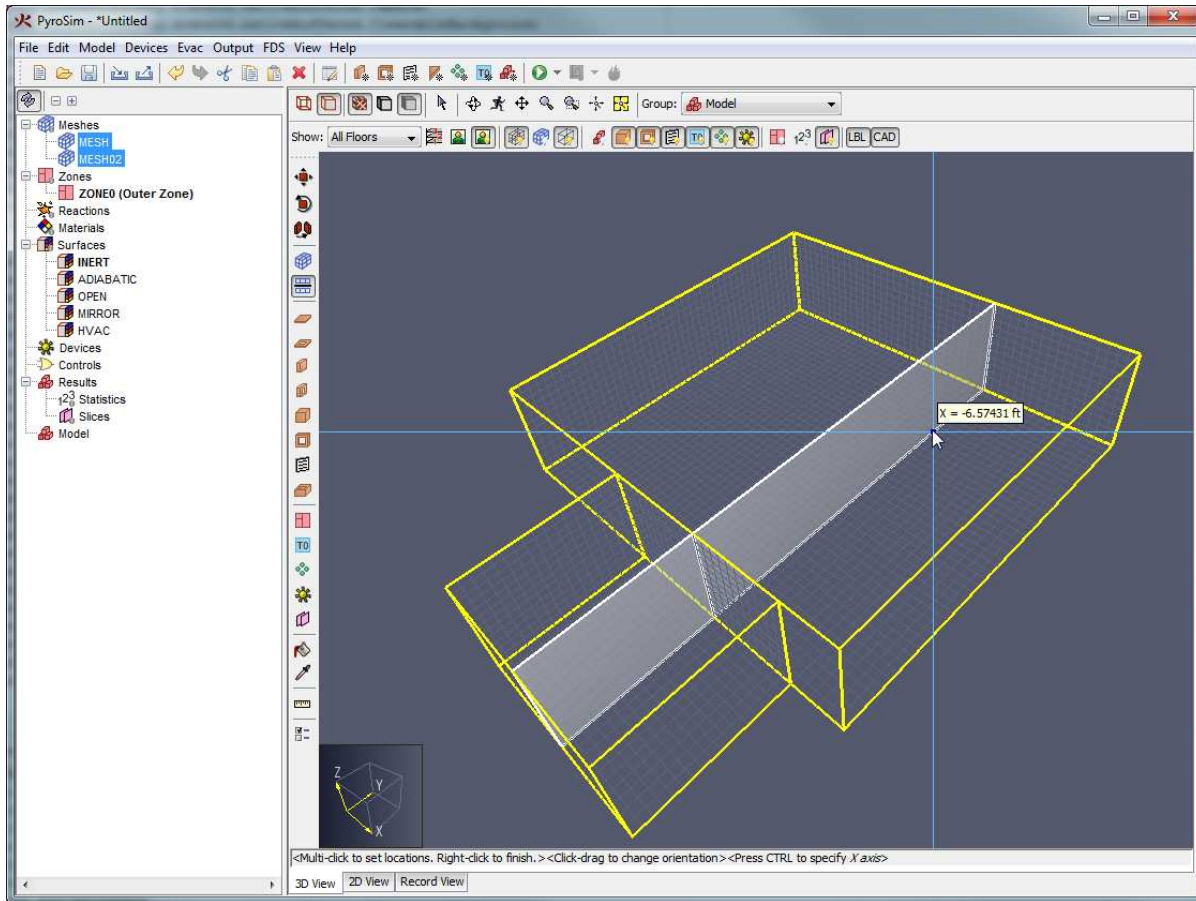

Figure 86. Meshes being split by the mesh splitter tool
3. Move the cursor over one of the meshes. A preview slice will show where the meshes will be split as shown in Figure 86. By default the tool will choose the split axis based on the nearest boundary edge of a selected mesh. The split axis can be explicitly set through the right-click menu, in the tool properties dialog, by click-dragging the left mouse button, or by pressing **CTRL** on the keyboard to cycle through the options.